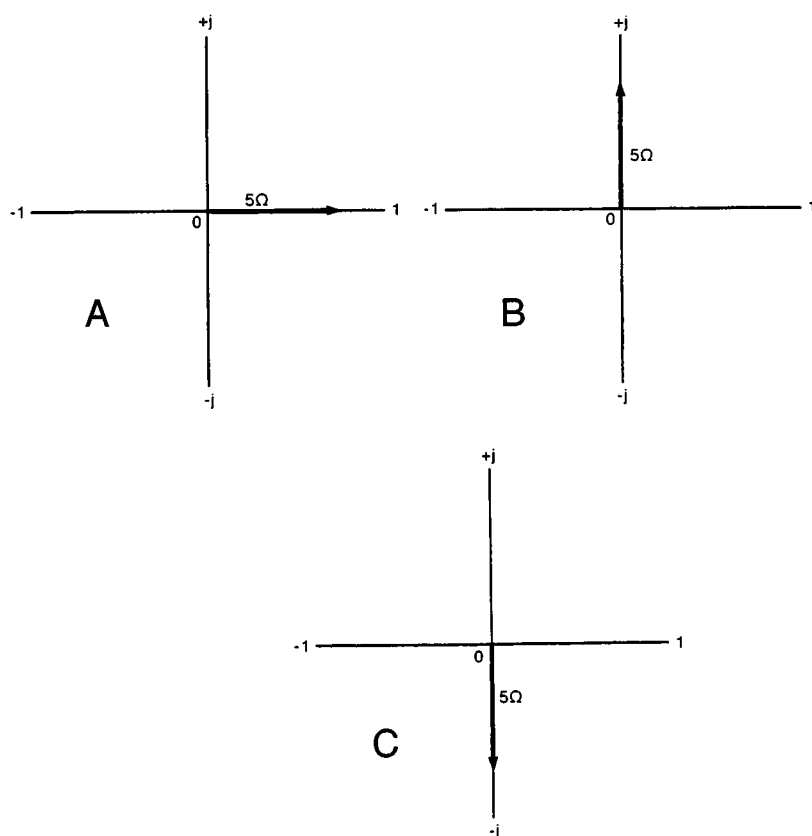

Figure B-2
Now that you have a brief introduction to imaginary number and the j operator, take a look at some examples of how you could use j . Figure B-2 shows how a vector quantity of 5 ohms could be graphically represented. Part A shows pure resistance (R), Part B shows inductive reactance (X_L), and Part C shows capacitive reactance (X_C).